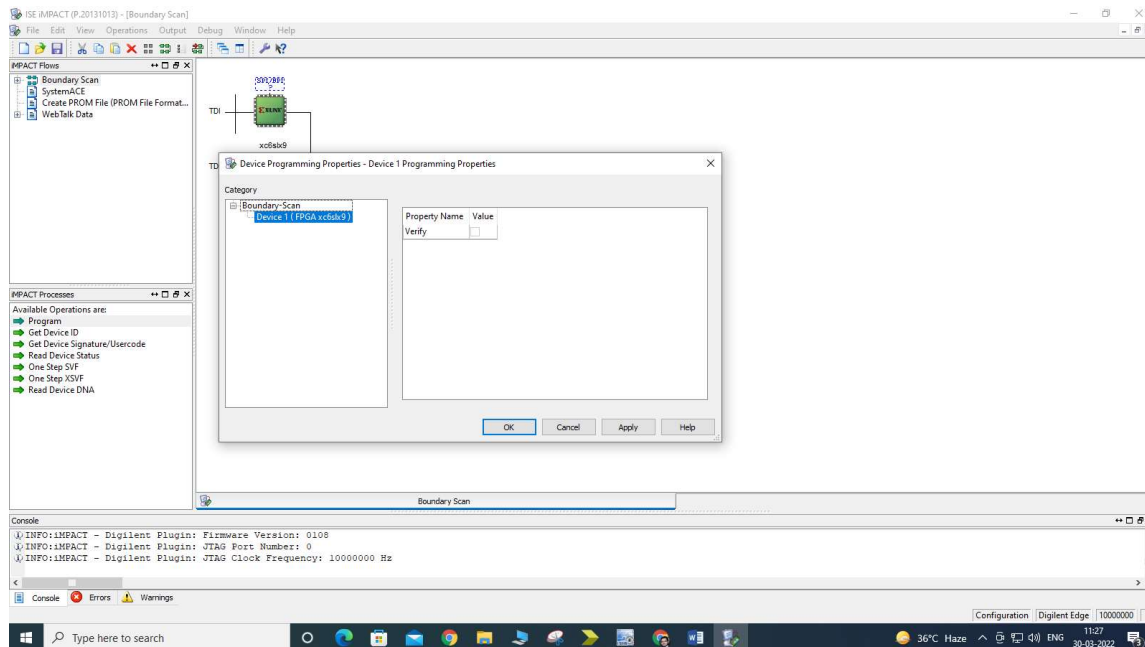

Fig 1.36
40. Double click on program then a popup window (device programming property window) will open. (Fig 1.36)
41. Click ok on Device Programming Property window (Fig 1.36)